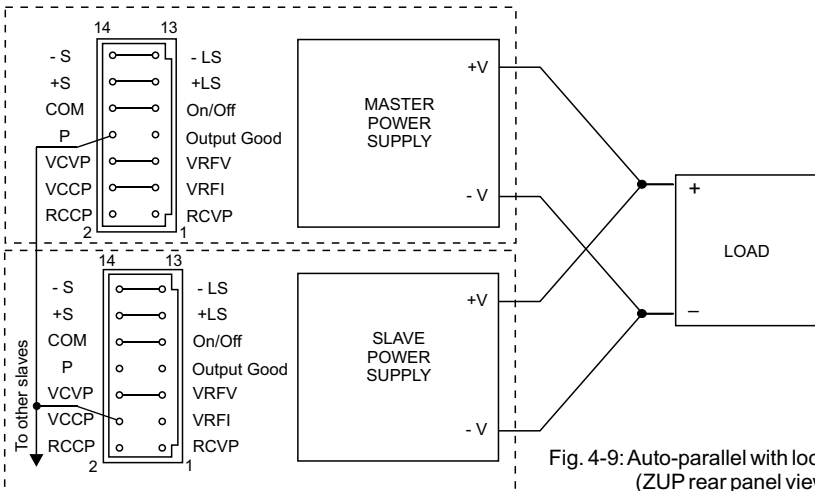

Fig. 4-9: Auto-parallel with local sensing (ZUP rear panel view)
- Connection to the Load:** At auto-parallel mode, power supplies can be connected in local or remote sensing. Refer Fig. 4-9, 4-10 & 4-11 for typical connections of paralleled power supplies. The figure below shows connection of two units, however the same connection method applies for up to 5 units.